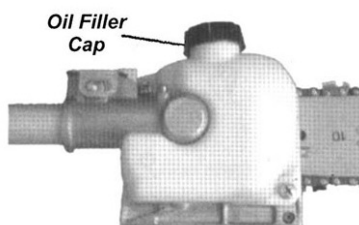

Figure 22
1. Place the pole pruner on a clean, flat surface with the oil filler cap facing up. See figure 22. Wipe off any debris from the oil cap and from around the oil filler neck.